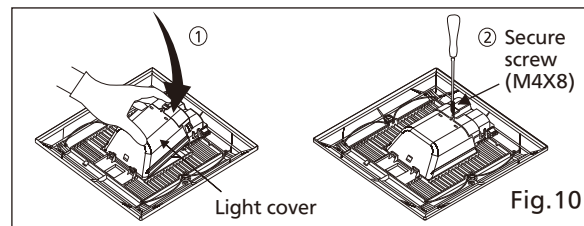

Fig.10
12. Install light cover. (Fig.10)
5. Install light cover. (Fig.10 of page 9)